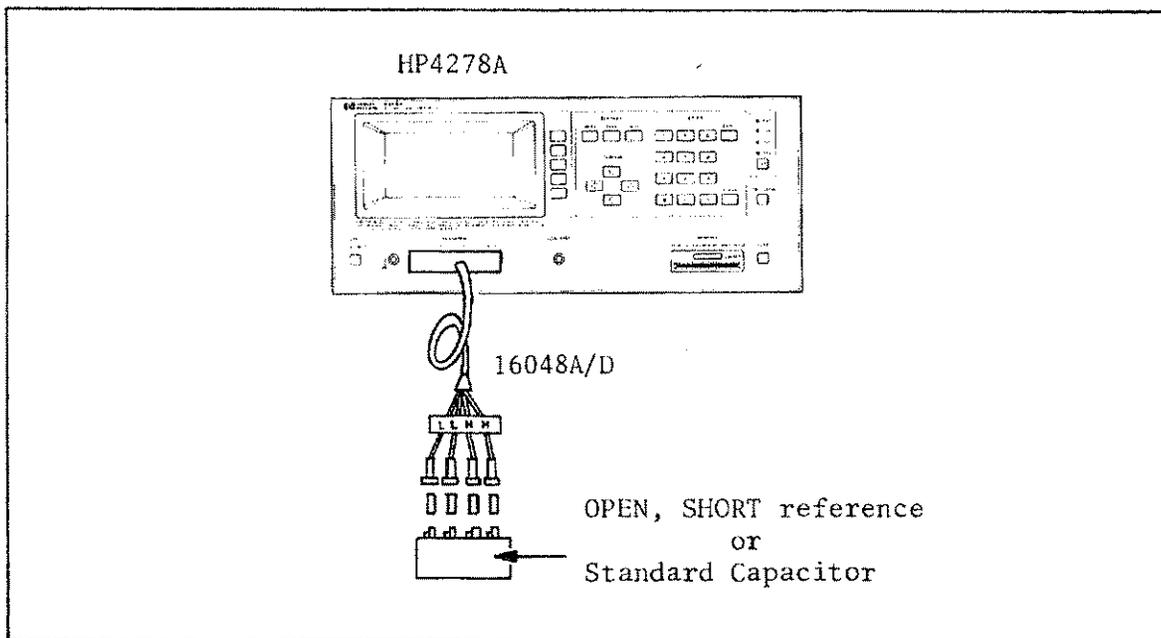

Figure 6-4. 1kHz Capacitance Accuracy Test Setup 2
28. Disconnect the  $10\Omega$  standard resistor, and connect the **OPEN** reference using the 16048A test leads as shown in Figure 6-4.